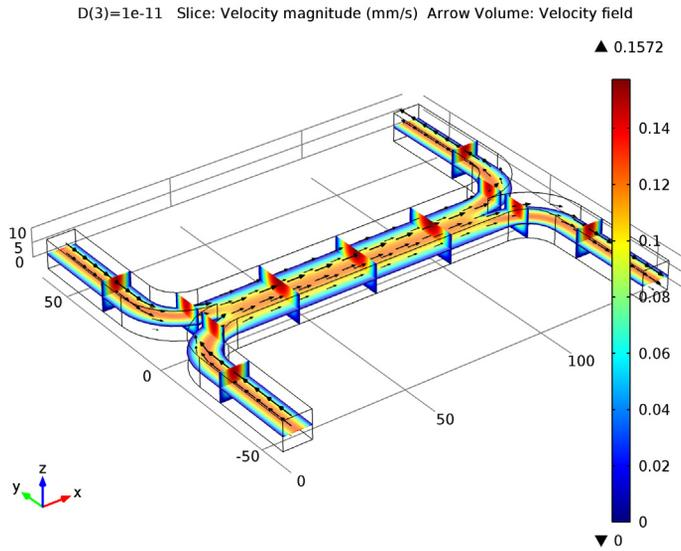
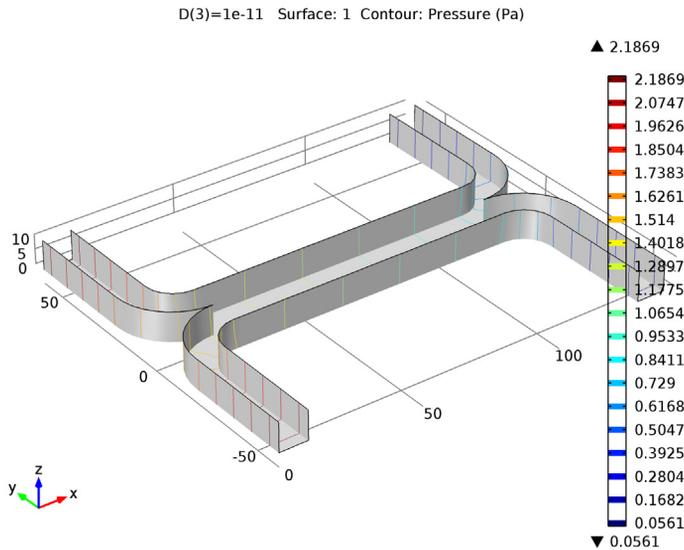

Figure 3: Flow velocity field.
Figure 4: Pressure distribution on the channel walls.
Figure 3 shows the velocity field for the case where viscosity is concentration independent. The flow is symmetric and is not influenced by the concentration field. Figure 4 shows the corresponding pressure distribution on the channel walls that
*Figure 9: Velocity field. The viscosity varies with the concentration according to  $\mu = \mu_0(1 + \alpha c^2)$  with  $\alpha = 0.5 \text{ (m}^3/\text{mol)}^{-2}$ . It is difficult to see the differences between this figure and that in Figure 3, but careful inspection reveals a slight change in the velocity profile. This is highlighted further in Figure 12.*
*Figure 10: Pressure distribution. The viscosity varies with the concentration according to  $\mu = \mu_0(1 + \alpha c^2)$  with  $\alpha = 0.5 \text{ (m}^3/\text{mol)}^{-2}$ . This figure should be compared to Figure 4. There are significant differences between the two cases.*